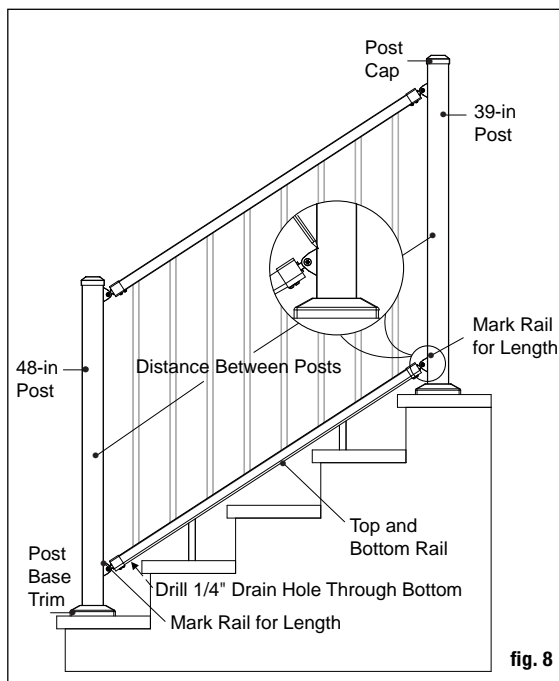
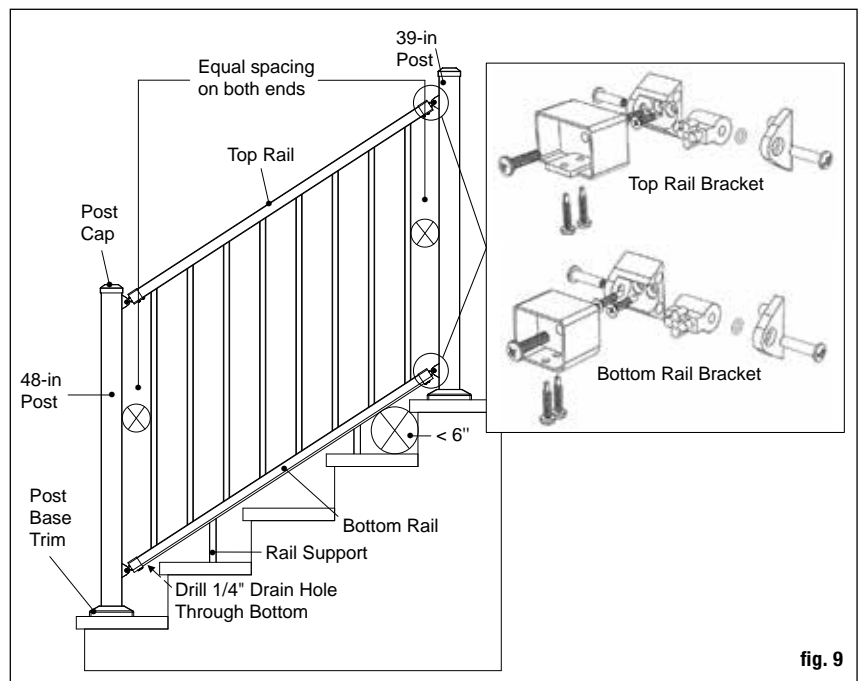

fig. 8
fig. 9
Step 8 A rail support is needed every 2 feet (**2 are included in the 6ft rail kit, 3 in the 8ft kit**). Attach rail support connectors to the bottom of the lower rail at 2-foot intervals using included screws. Pre-drill using a 1/8" drill bit. Mark the location of the rail support on the step tread and attach the other rail support connectors to the step tread (fig. 8). **Drill one 1/4" drain hole through the bottom of the rail to prevent trapping water. Position the hole toward the lower end of the rail, roughly 1.5" from rail end to avoid the lower bracket.**
Step 7 Position the rail between the posts. Check for level end-to-end and vertically. Pre-drill rail using a 7/64" drill bit. Attach brackets to the post at one end. Repeat for the other end. *Note: Use a driver extension bit to avoid marring the rail with the drill chuck* (fig. 8 and fig. 9).